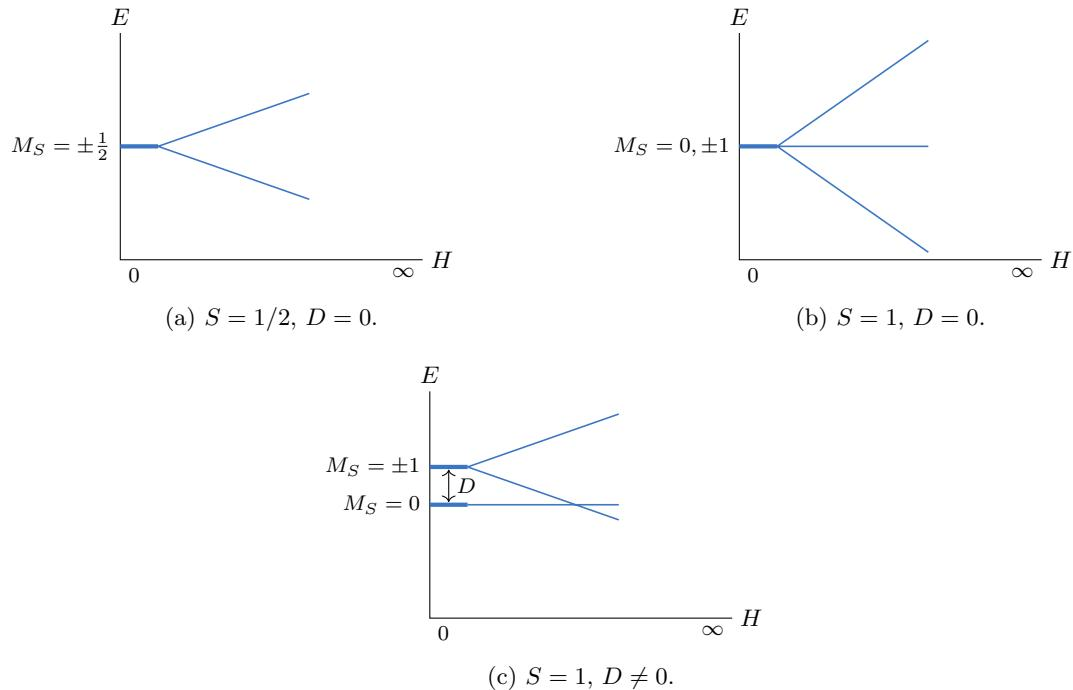

Figure 6.2: Zero field splitting.
- Look at graphs of energy as a function of applied magnetic field H (see Figure 6.2).